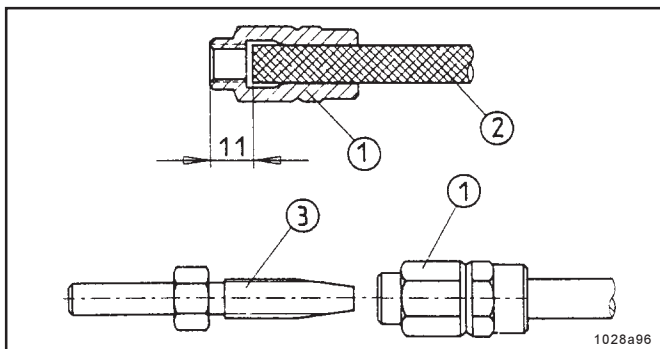

Fig. 39 -Preassembly of the threaded sleeves and hose studs on the high-pressure plastic hose
- Screw the threaded sleeve (item 1 Fig. 39) counterclockwise onto the high-pressure plastic hose (2) until the illustrated dimension of 11 mm (0.43 in.) is reached. Then screw the hose stud (3) into the threaded sleeve (1).